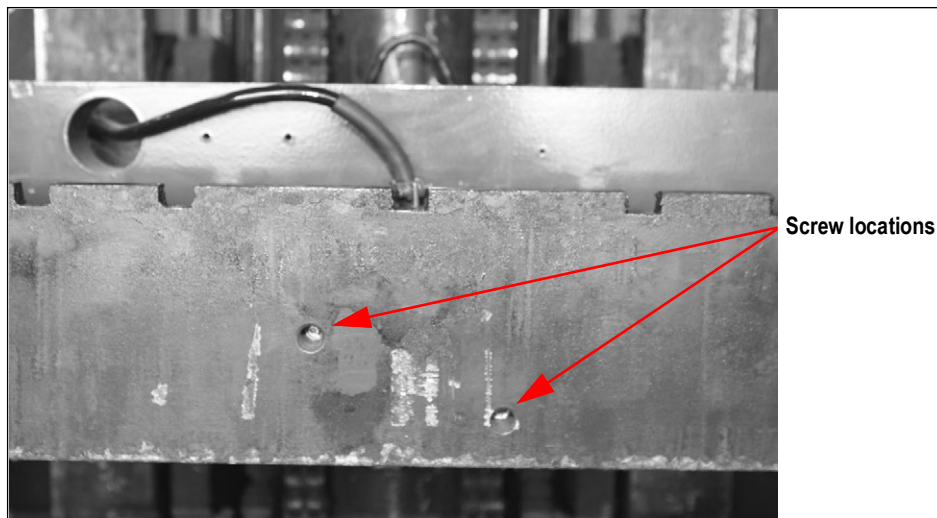

Figure 4-13. Screw Locations
4. Remove the two screws securing the junction box to the scale. See Figure 4-13 for screw location.